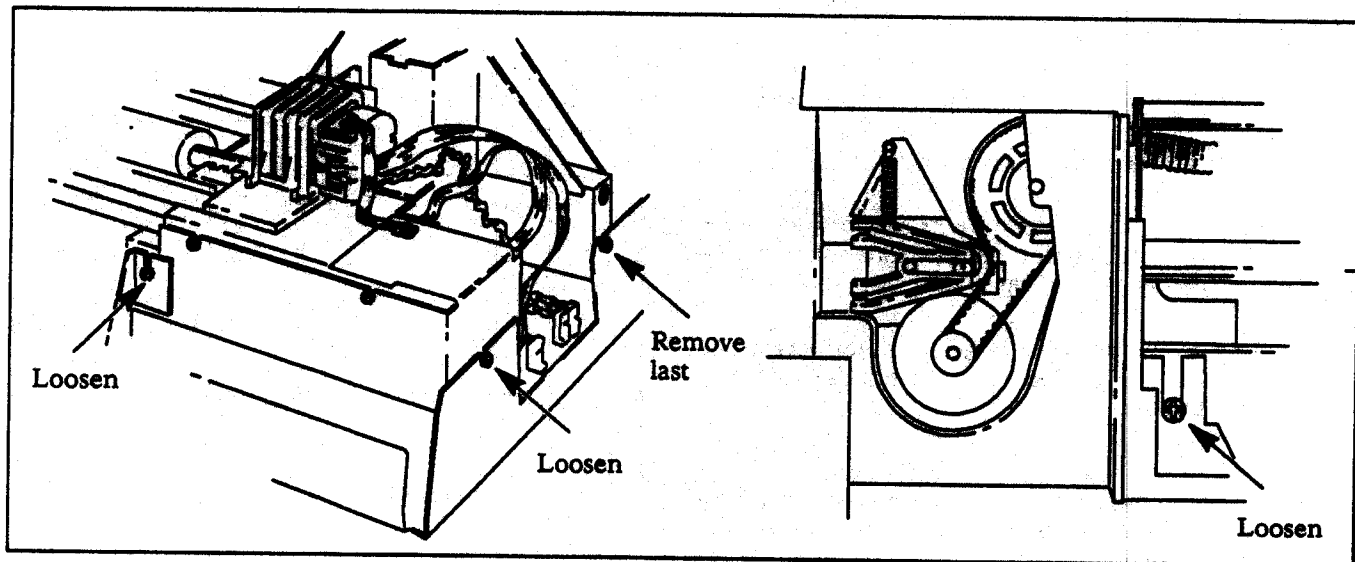

Figure 6-15. Right Base Removal
- h. Loosen the three machine screws holding the base to the plotter. See Figure 6-15.
- i. Support the base and remove the fourth machine screw holding the base and PCA to the plotter. See Figure 6-15.